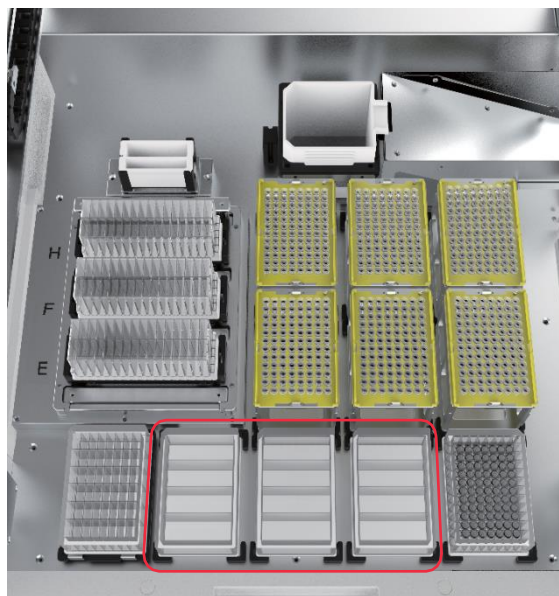

Figure 4. Location of each reagent
- Ensure that each reagent is placed in the correct position and orientation on the AmMag™ Quatro 1100 deck (Refer to Figure 4).